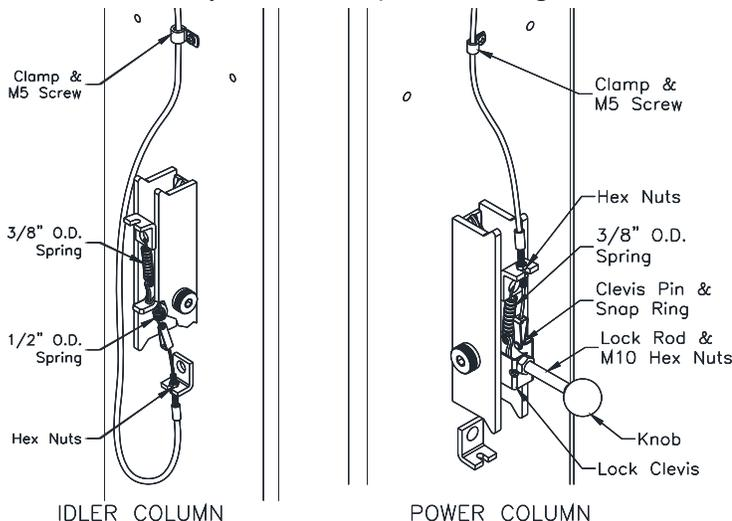

Fig. 9 – Lock Assembly
- 32) Attach Mechanical Lock Release Cable Assembly to each lock pawl. See Fig 9.